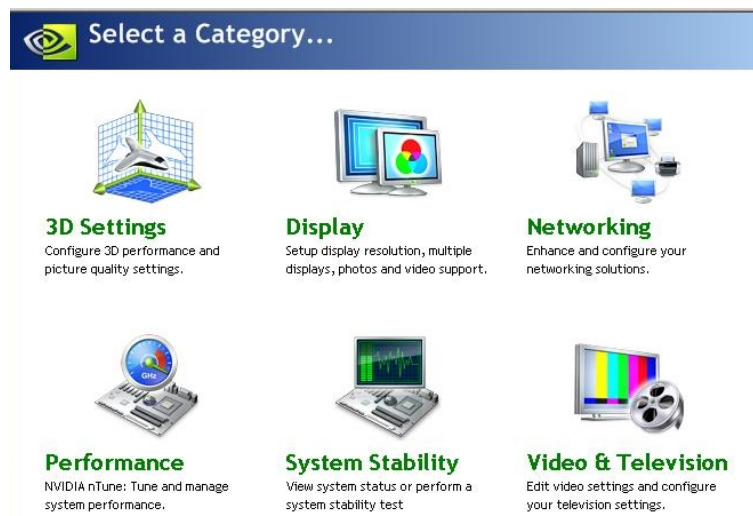

Figure 12. NVIDIA Control Panel
1. Right click the Desktop and select NVIDIA Control Panel. This brings up the screen shown in Figure 12.